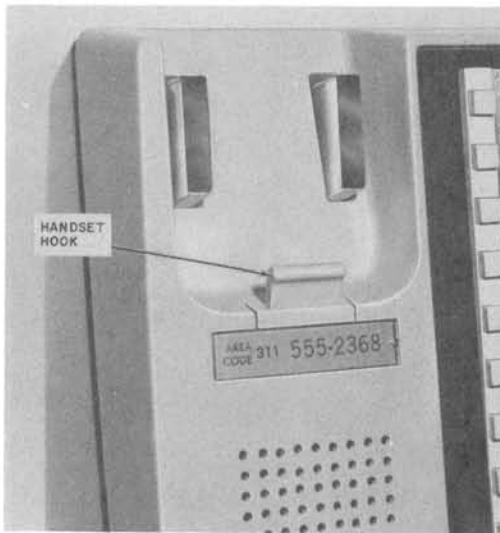
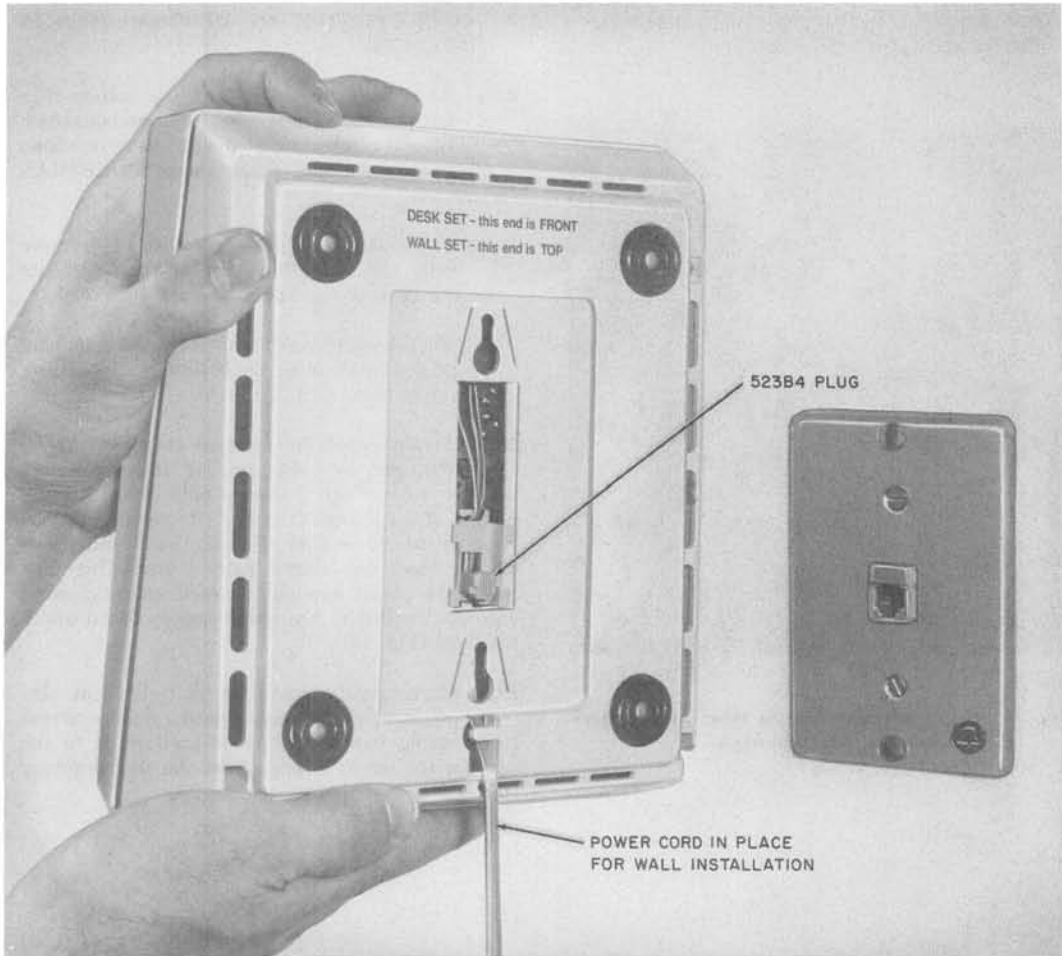

Fig. 11—960A01M Telephone Set With Handset Hook Reversed for Wall Mounting
Fig. 12—960A01M Wall Set and 630A4 Connecting Block
- (4) Remove the 523B4 plug from its stored position and snap both sides of the plug into rectangular slot in the bottom of the lower housing. Snap plug in from the outside such that the word **TOP** is properly oriented in the housing (Fig. 12). The plug should slide freely in the slot.
- (5) Insert the other end of the 523B4 plug into the jack position designated **PHONE** on the power supply board.
- (6) Insert the power cord up through the cord opening below the plastic retainer tab in the bottom of the lower housing (Fig. 12).
- (8) Place the lower housing on the chassis according to the instructions on the bottom (Fig. 12), and engage the four captive screws.
- (9) Remove the station number card retainer and station number card from the upper housing.
- (10) Disengage the captive screw from the chassis and lift out the concealed handset hook and screw from the cavity in the upper housing.
- (11) Completely remove the captive screw from one side of the handset hook and insert it into the other side.
- (12) Place the handset hook back into its cavity in the upper housing, engage the screw with the chassis, and fasten the hook down (Fig. 11).
- (13) Replace the station number card and card retainer.
- (14) The converted wall set is intended to plug into and secure to a 630A4 connecting block (Fig. 12 and 16B).